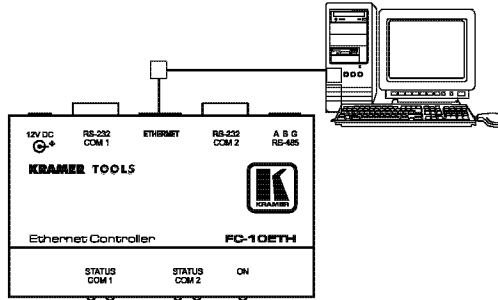

Figure 6: Connecting the FC-10ETH for Configuration
1. Connect the **FC-10ETH** as described in section 5.1 (see Figure 6)